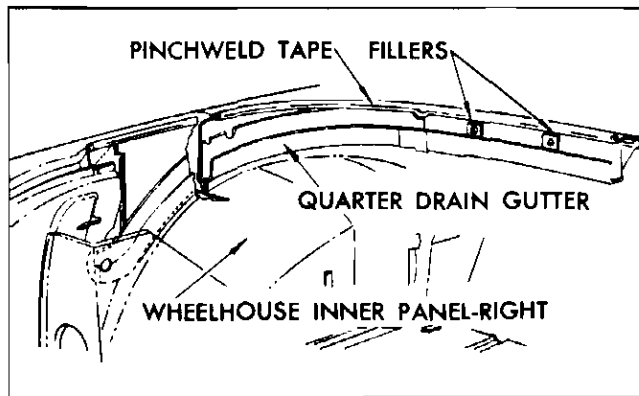

Fig. 7-40 Checking Trim Stick Fillers
14. Inspect rubber trim stick fillers cemented to body below pinchweld (Fig. 7-40). Re-cement if necessary.